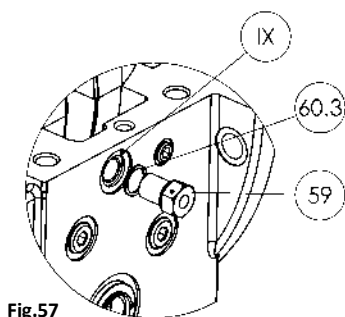

Fig. 57
- For assembling the hose, connect the jacking adapter (59) with a copper ring (60.3) to the lower housing at connection IX (Fig.57).